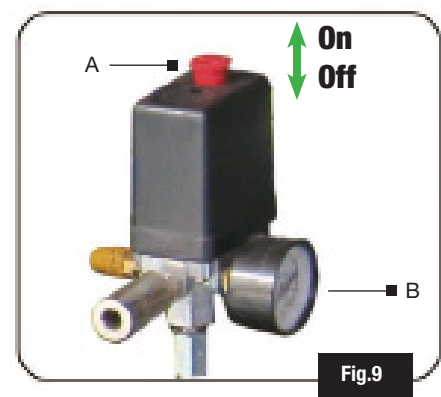

Fig.9
- Prior to connecting the compressor to the power supply, ensure the pressure switch (A) is on the **OFF** position as shown in (Fig. 9).
- Ensure the tank pressure reaches **10 bar** as indicated on the pressure gauge (B) (Fig.9) before the pressure switch shuts off the motor. The compressor motor will automatically restart when the tank pressure drops to approximately **3-4 bar** less than the maximum pressure.